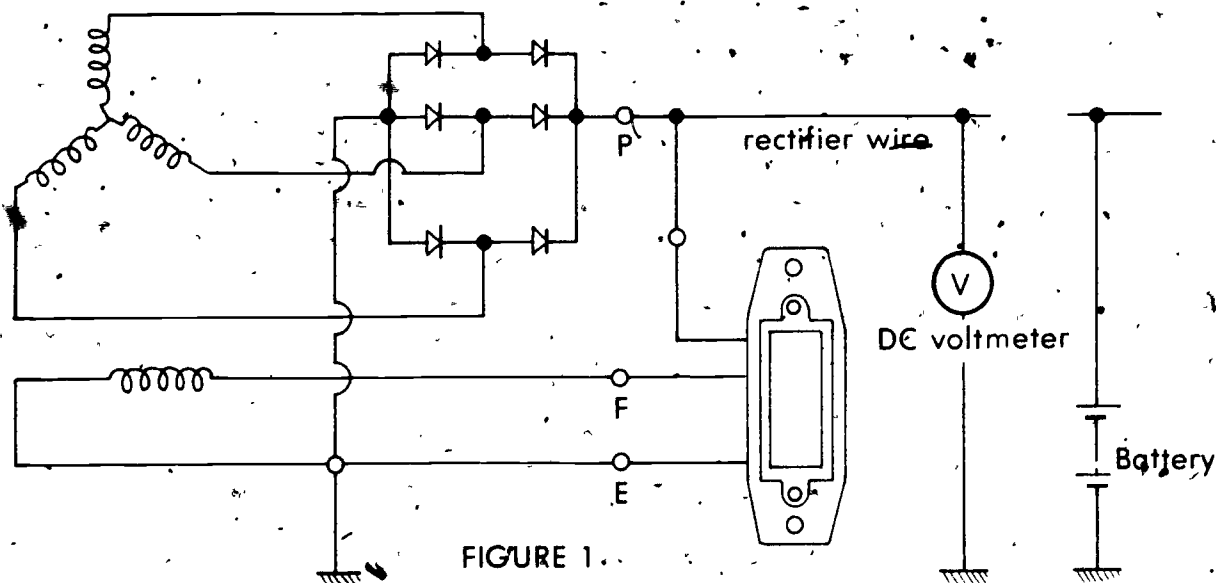

FIGURE 1.
1. To check for continuity, connect the ohmmeter leads to the slip rings of the rotating field coil, or to the two leads of the stationary field coil (Figures 1 and 2)
- B. Connect a DC voltmeter to the rectifier wire and to ground (Figure 1)